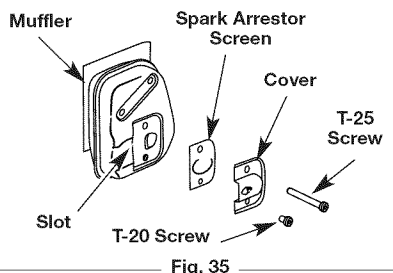

Fig. 35
2. With a flat blade screwdriver or Torx T-20 bit and a T-25 bit, remove the screws attaching the spark arrester cover to the muffler (Fig. 35).